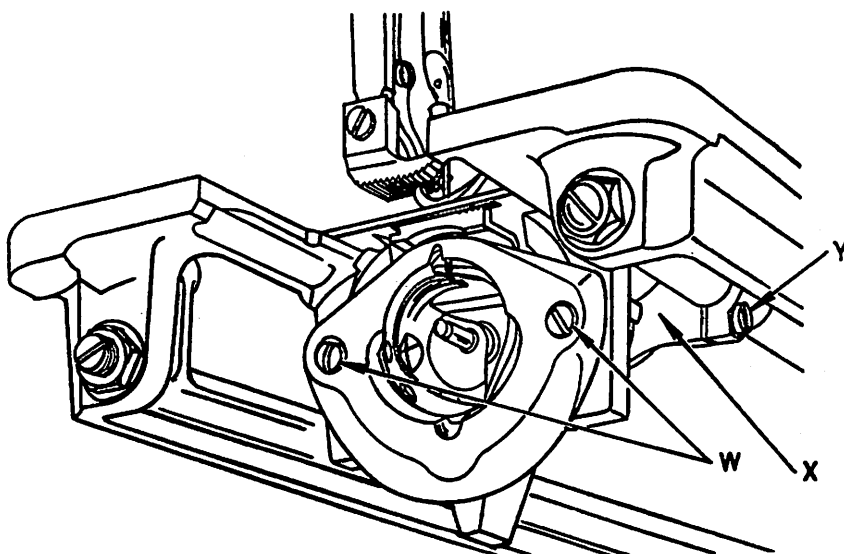

Fig. 20 Adjustment for Raising and Lowering the Feed Dog
Take out the two screws (W, Fig. 20) which hold the shuttle race in position and remove the shuttle race. Then remove the shuttle from the shuttle race.
The feed lifting rock shaft crank (X, Fig. 20) should be set so that when it raises the feed bar to its highest point, slightly less than the full depth of the teeth project through the slots in the throat plate. To raise or lower the feed dog, loosen the clamping screw (Y, Fig. 20) and move the feed lifting rock shaft crank (X) until the feed dog is set at the required height, then securely tighten the clamping screw (Y).